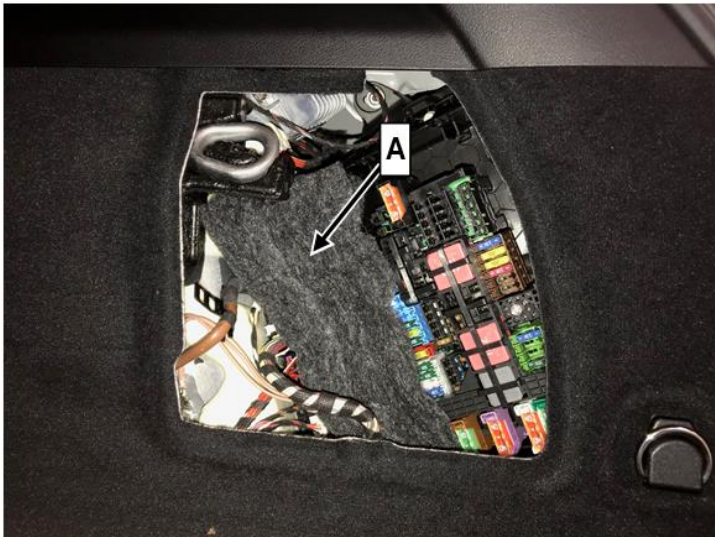
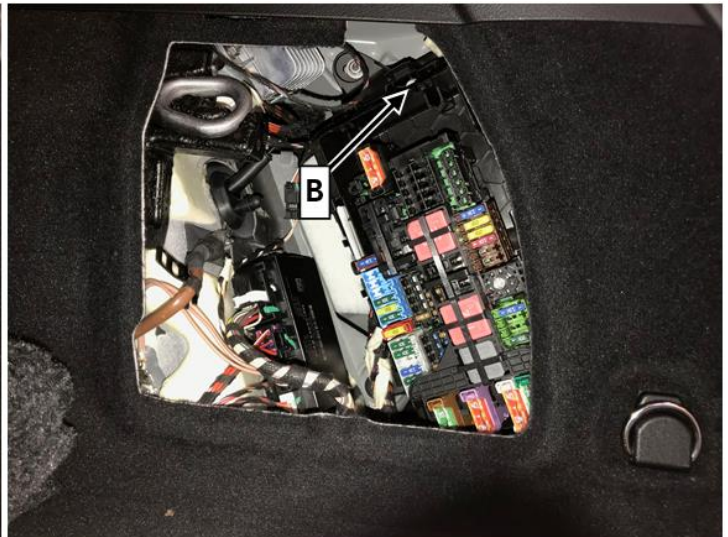

Figure 1
Figure 2
5. Remove insulation (**A, figure 1**) and unscrew screw (**B, figure 2**).